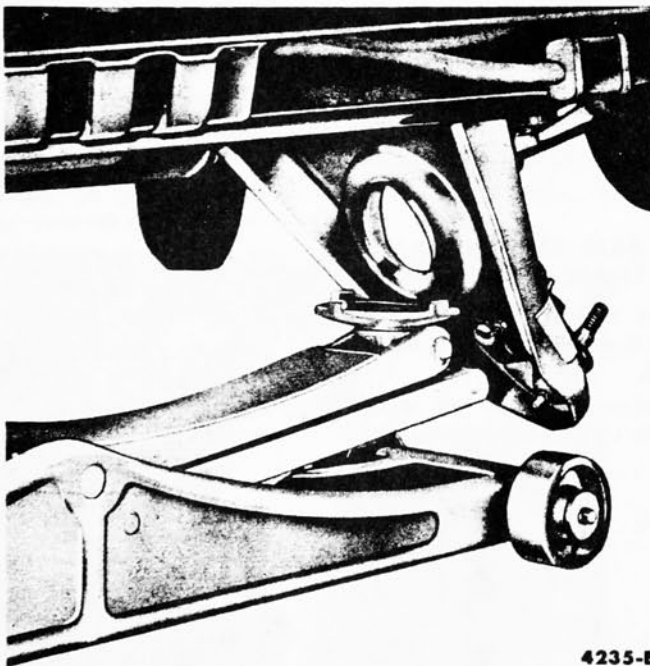

FIG. 8—Lowering or Raising Lower Arm
8. Remove the nut from the lower ball joint stud, and slowly lower the arm until the spring is fully extended (Fig. 8).